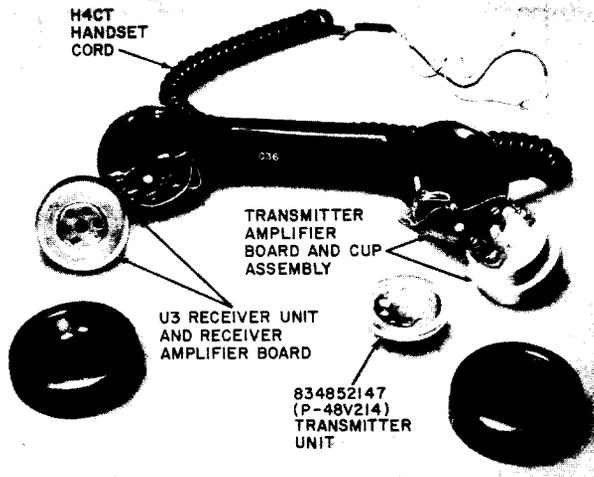

Fig. 1—G36A (MD) Handset
1.01 The G36-type handset (Fig. 1 and 2) is used as a replacement handset on 500-, 600-, 700-, 2500-, 2600-, and 2700-type telephone sets when used with subscriber long route designs where 3.0db of transmission gain or low current operation is required. An information card giving basic installation instructions and an identification label to be attached to the telephone set base for identification of G36-type handset equipped sets is furnished with each handset.